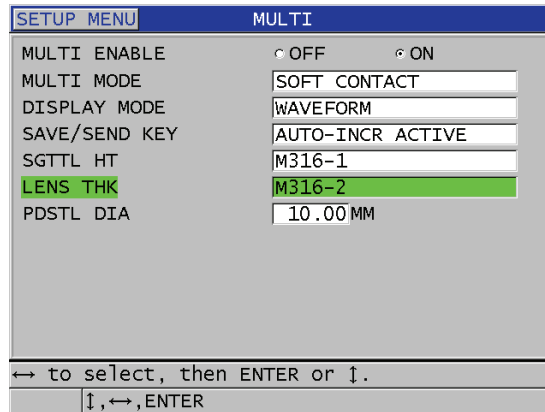

Figure 7-9 Setting multi-measurement parameters in the soft contact mode
5. In the **MULTI** screen (see Figure 7-9 on page 100):